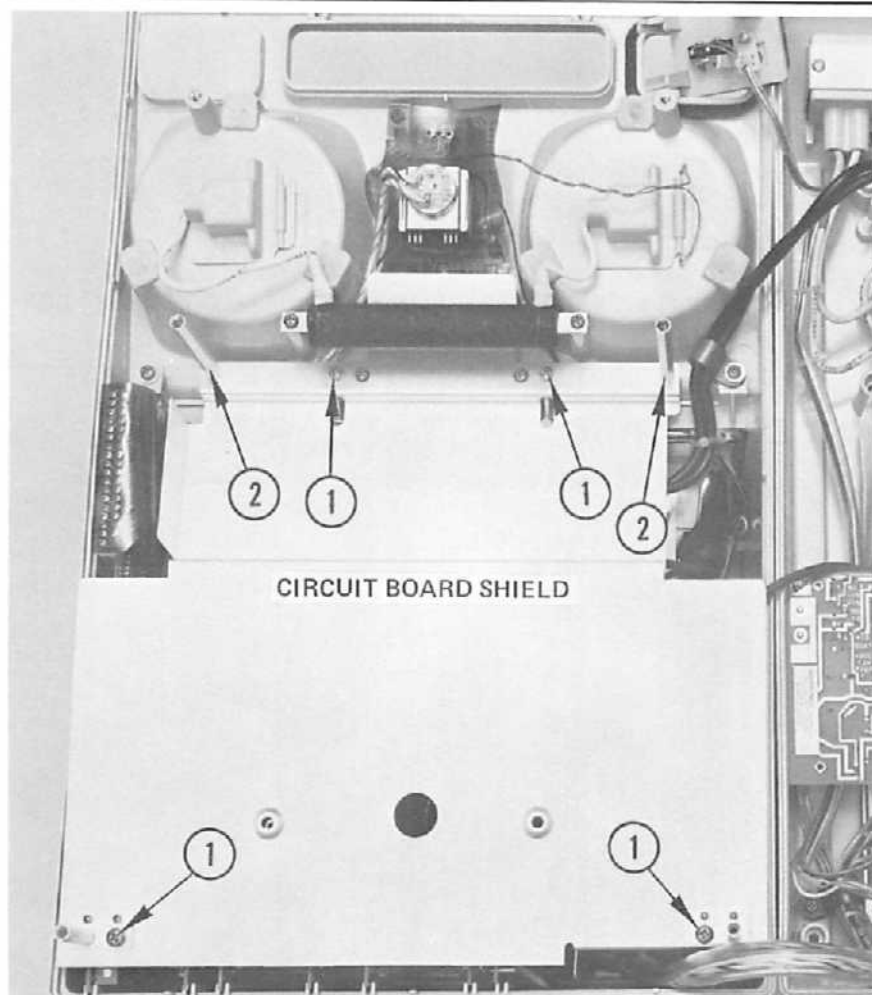

Figure 4-3. (78670A)
8. A metal shield covers the circuit boards in the upper section. To remove the shield (see Figure 4-3):